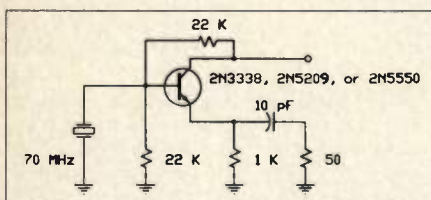

Figure 1. Kleinberg's circuit.
Circuit #1 (70 MHz fundamental). The first circuit tried was Leonard Kleinberg's (Figure 1). This circuit behaved as described (only "low" frequency transistors worked) (1), was very reliable, and provided strong harmonics up to above 1000 MHz. The output, at the fundamental frequency of the overtone crystal (70 MHz), was about 7-8 dBm with the circuit shown.